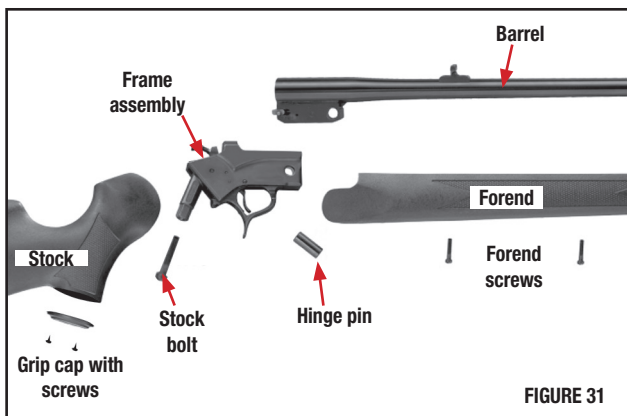

FIGURE 31
The Encore® breaks down into 3 basic groups of parts (FIGURE 31):
- This diagram shows the extent to which the Encore® should be disassembled by the user for routine maintenance and interchange of accessory stocks, barrels and forends (FIGURE 31).